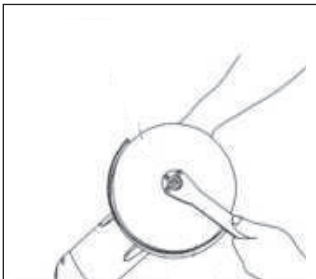

Fig 4
2. Tighten the outer flange, press the shaft lock firmly so that the spindle cannot revolve, then use the lock nut wrench and securely tighten clockwise. (Fig 4)